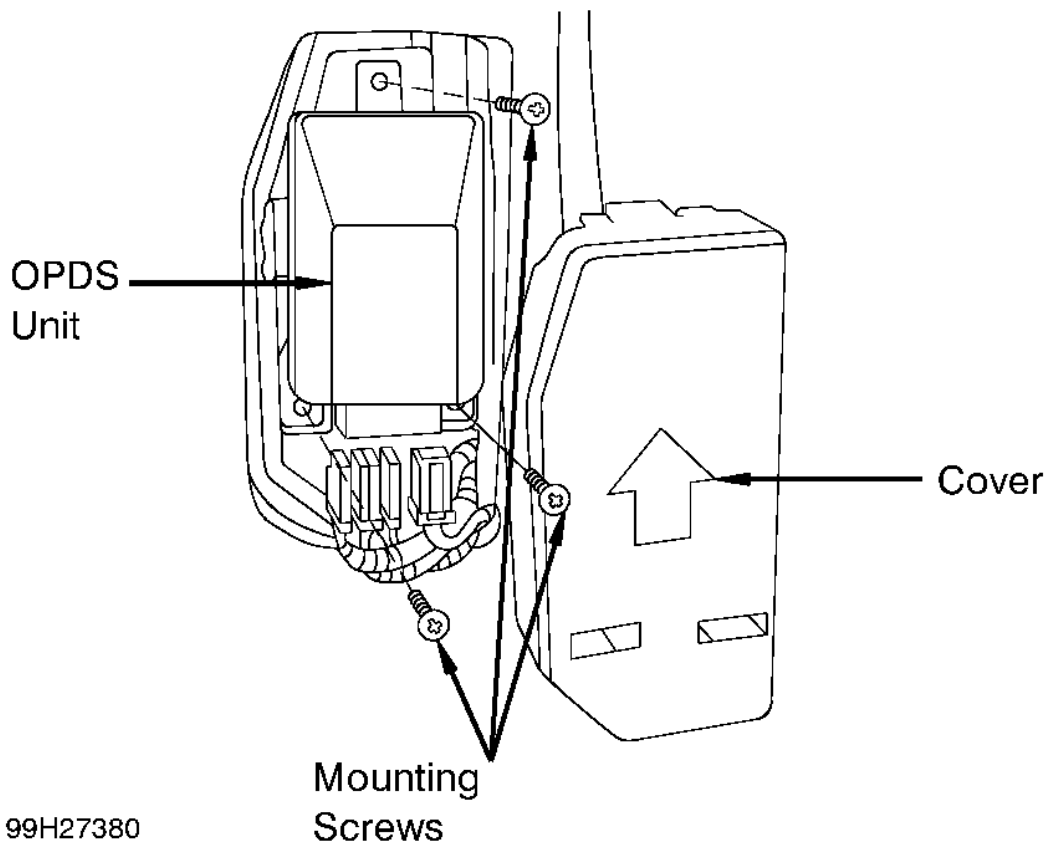

Fig. 19: Identifying OPDS Unit
1. Before proceeding, see **AIR BAG SAFETY PRECAUTIONS** . Disable air bag system. See **DISABLING SYSTEM** under DISABLING & ACTIVATING AIR BAG SYSTEM. Remove front passenger seat and seat back cover. Remove OPDS unit cover, Disconnect 8-pin and sensor connector, remove 3 screws and remove OPDS unit. See **Fig. 19** .